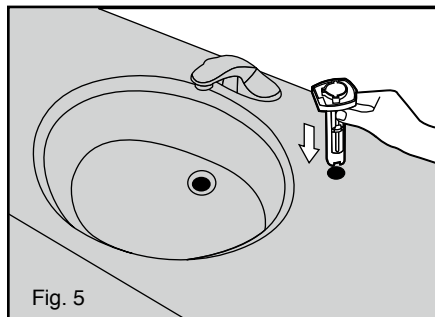

Fig. 5
6. Insert the support shaft thru the hole in the countertop (see figure 5).